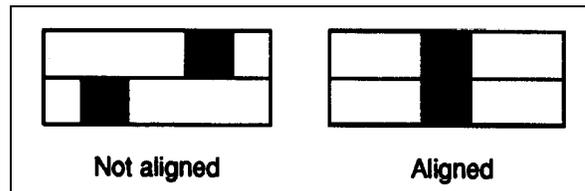

FIGURE 53: HEADLIGHT ALIGNMENT 06088
5. Look through the top port hole of unit A, and turn horizontal knob until split images are aligned. See figure 53.